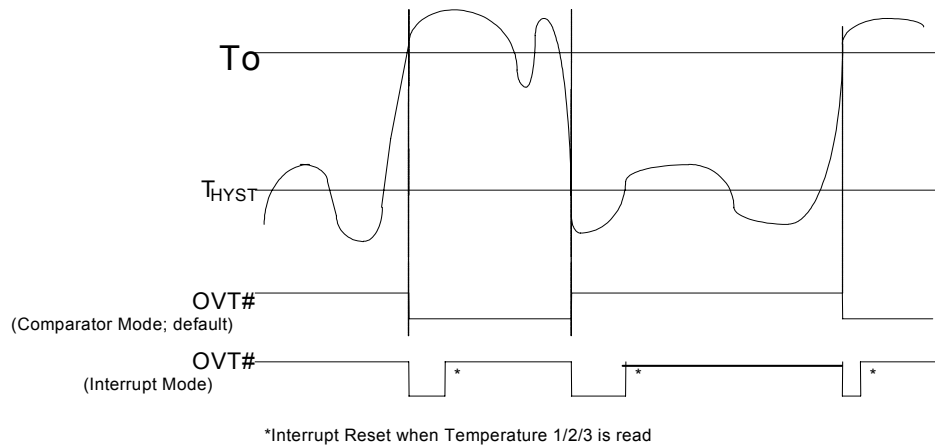

Figure 11 Over-Temperature Response Diagram
The negative voltage should be connected to two series resistors and a positive voltage VREF (equal to 2.048V). In the Figure 11, the voltage V3 and V4 are two negative voltages and are -12V and -5V respectively. The voltage V3 is connected to two serial resistors as well as another positive terminal VREF. Therefore, the voltage node N12VIN would be a positive voltage if the scale of the two serial resistors are carefully selected. It is recommended from Winbond that the scale of the two serial resistors are R5=232K ohms and R6=10K ohm. The input voltage of node -12VIN can be calculated by the following equation.
The W83792D/G can be connected three thermistors to measure three different environmental temperatures. The specification of thermistor should be considered to (1) β value is 3435K, (2) resistor value is 10K ohms at 25°C. In the Figure 11, the thermistor is connected by a serial resistor with 10K Ohms(1% error), then connect to VREF (Pin 37).
The W83792D/G can alternate the thermistor to Pentium IV™ thermal diode interface or transistor 2N3904 and the circuit connection is shown as Figure 11. The pin of Pentium IV™ D- is connected to power supply ground (GND) and the pin D+ is connected to pin VTINx in the W83792D/G. The resistor R=30K ohms should be connected to VREF to supply the diode bias current and the bypass capacitor C=3300pF should be added to filter the high frequency noise. The transistor 2N3904 should be connected to a form with a diode, that is, the Base (B) and Collector (C) in the 2N3904 should be tied together to act as a thermal diode.
Temperature exceeding T_O causes the OVT# output activated indefinitely until reset by reading temperature sensor 1 or sensor 2 or sensor 3 registers. Temperature exceeding T_O , then OVT# reset, and then temperature going below T_{HYST} will also cause the OVT# activated indefinitely until reset by reading temperature sensor 1 or sensor 2 or sensor 3 registers. Once the OVT# is activated by exceeding T_O , then reset, if the temperature remains above T_{HYST} , the OVT# will not be activated again. (Figure 11)